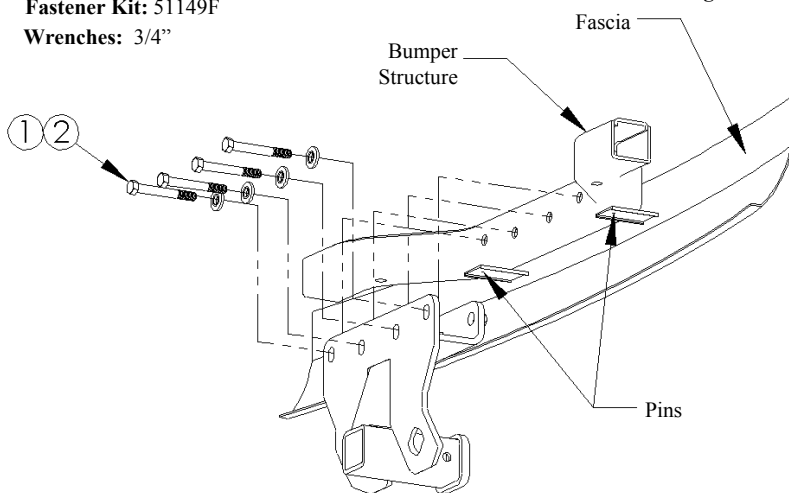

FIGURE 1
2. Remove two plastic pins that hold bumper fascia onto bumper structure as shown in Figure 1. (If OEM tow hook is present: Remove fascia, plastic bumper support and tow hook)